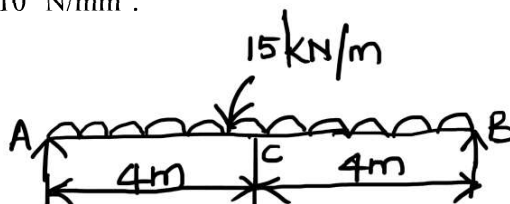

Fig.6
- 7 a) A horizontal beam is freely supported at its ends 8 m apart and carries a UDL of 15 kN/m over the entire span as shown in Fig.6. Find the maximum deflection and location of the maximum deflection using double integration method. Take  $I=2 \times 10^9 \text{ mm}^4$  and  $E=2 \times 10^5 \text{ N/mm}^2$ . [7]